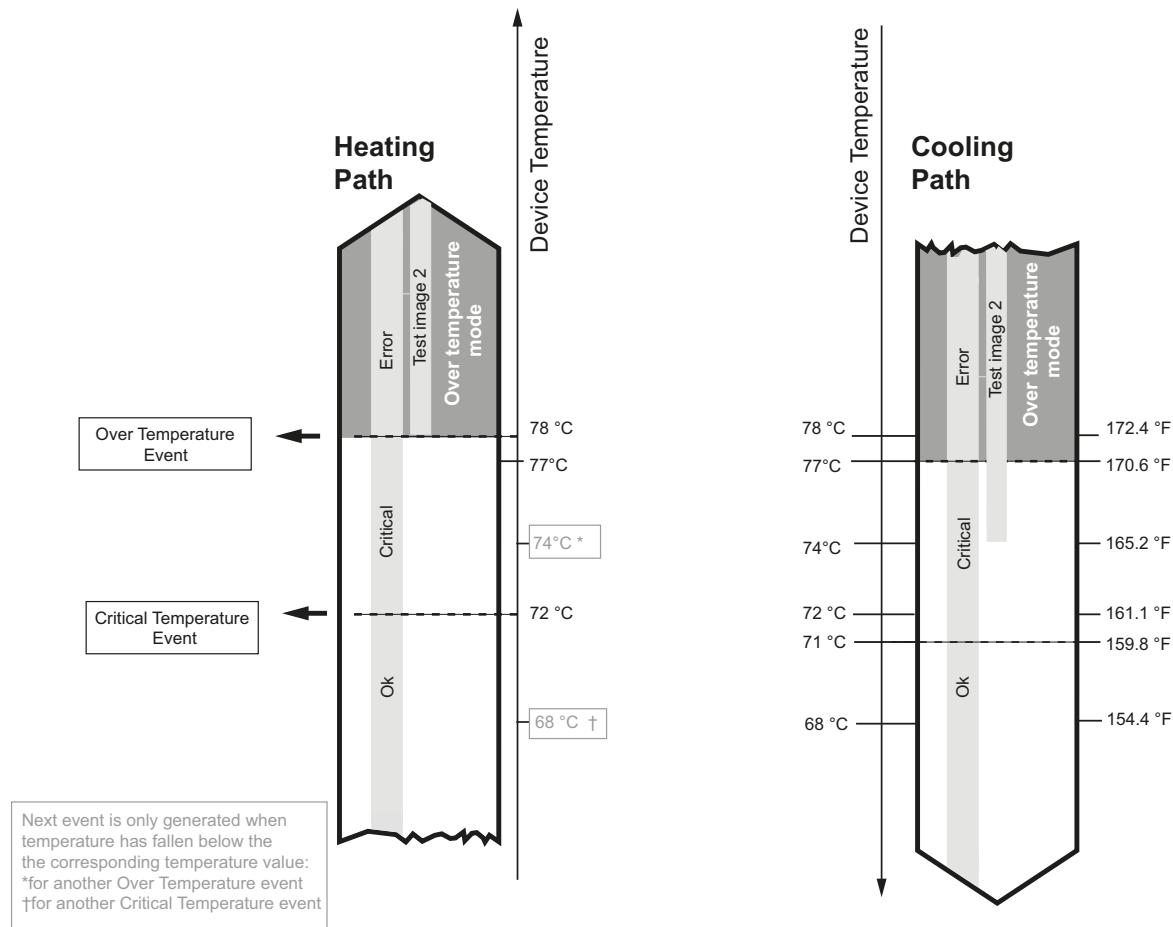

Fig. 38: Over Temperature Behavior for Heating and Cooling Paths
Note that the Fahrenheit ( $^{\circ}\text{F}$ ) values are indicated at the right side in Figure 38.
The cooling path includes device temperature thresholds at 74 °C and 68 °C that are used to reset event notification (see Figure 38):
- The parameter values for the TemperatureState parameter can be Ok, Critical, and Error. For information about their meanings, see Figure 38 on page 68 and the related descriptions.